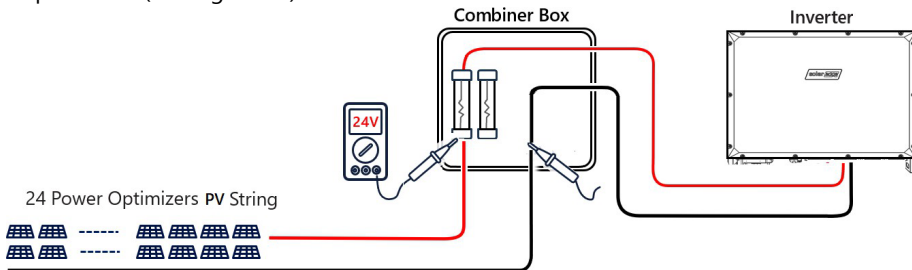

Figure 19 Verifying Proper Power Optimizers Connection on a String
When a module is connected to a Power Optimizer, the Power Optimizer outputs a safe Voltage of 1V ($\pm 0.1V$). Therefore, the total PV string Voltage should equal 1V times the number of Power Optimizers connected in series in a PV string. For example, if 24 Power Optimizers are connected in a PV string, then 24 Vdc should be produced (see Figure 19).
4. Align the four hangers on the back inverter enclosure with the mounting bracket and lower the inverter until it rests on the bracket evenly (see Figure 19).